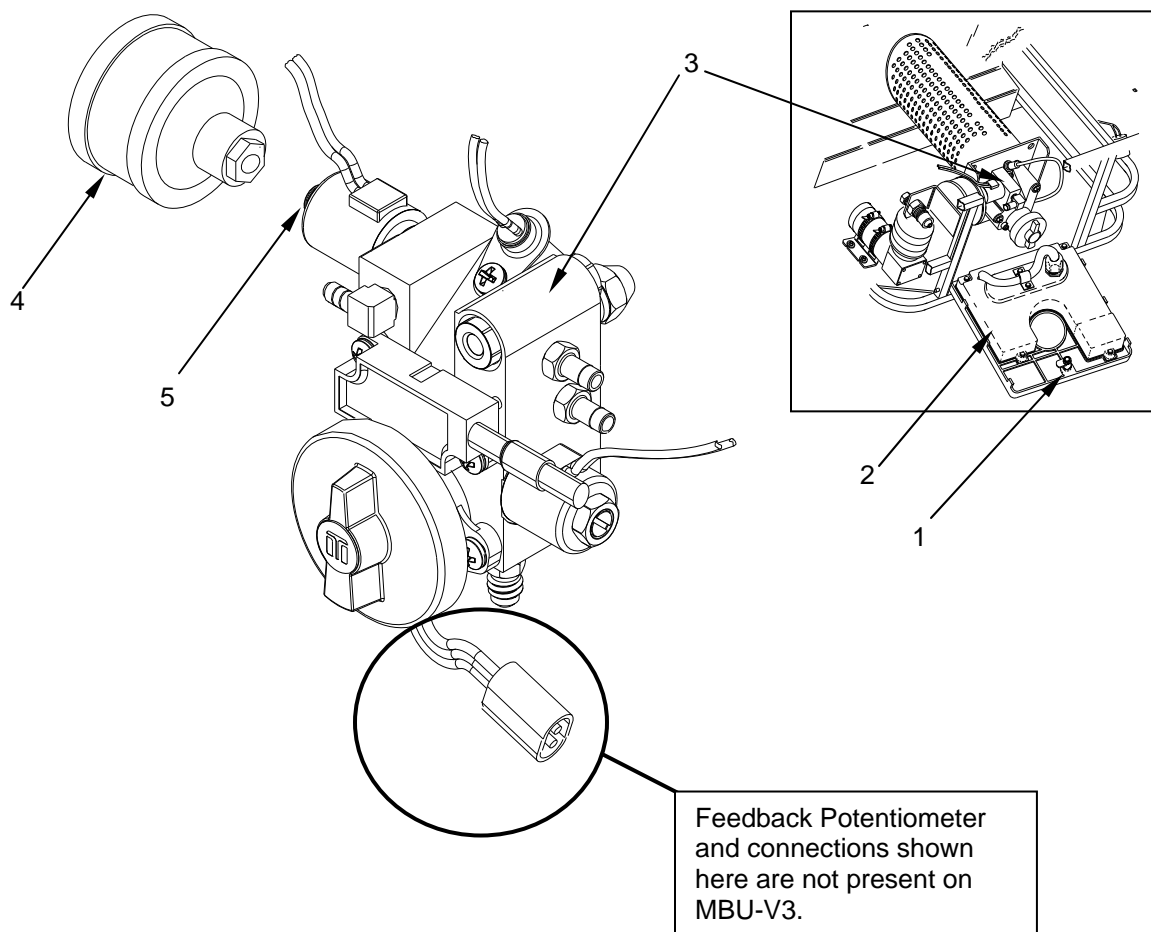

Figure 1. Replace the Air Filter.
1. Turn locking latch (Figure 1, Item 1) on top of front panel (Figure 1, Item 2) counterclockwise. Lower front panel of MBU to gain access to fuel delivery block (Figure 1, Item 3) and Air Filter (Figure 1, Item 4).
2. Grasp air filter (Figure 1, Item 4) and rotate counterclockwise (hold body of solenoid to prevent turning) to unscrew from the threaded fitting (Figure 1, Item 5) on the air/fill solenoid valve of the fuel delivery block (Figure 1, Item 3).
3. Screw the new air filter (Figure 1, Item 4) onto the threaded fitting (Figure 1, Item 5) until it is securely in place. Hand tighten the air filter.
4. Close and secure front panel (Figure 1, Item 1).